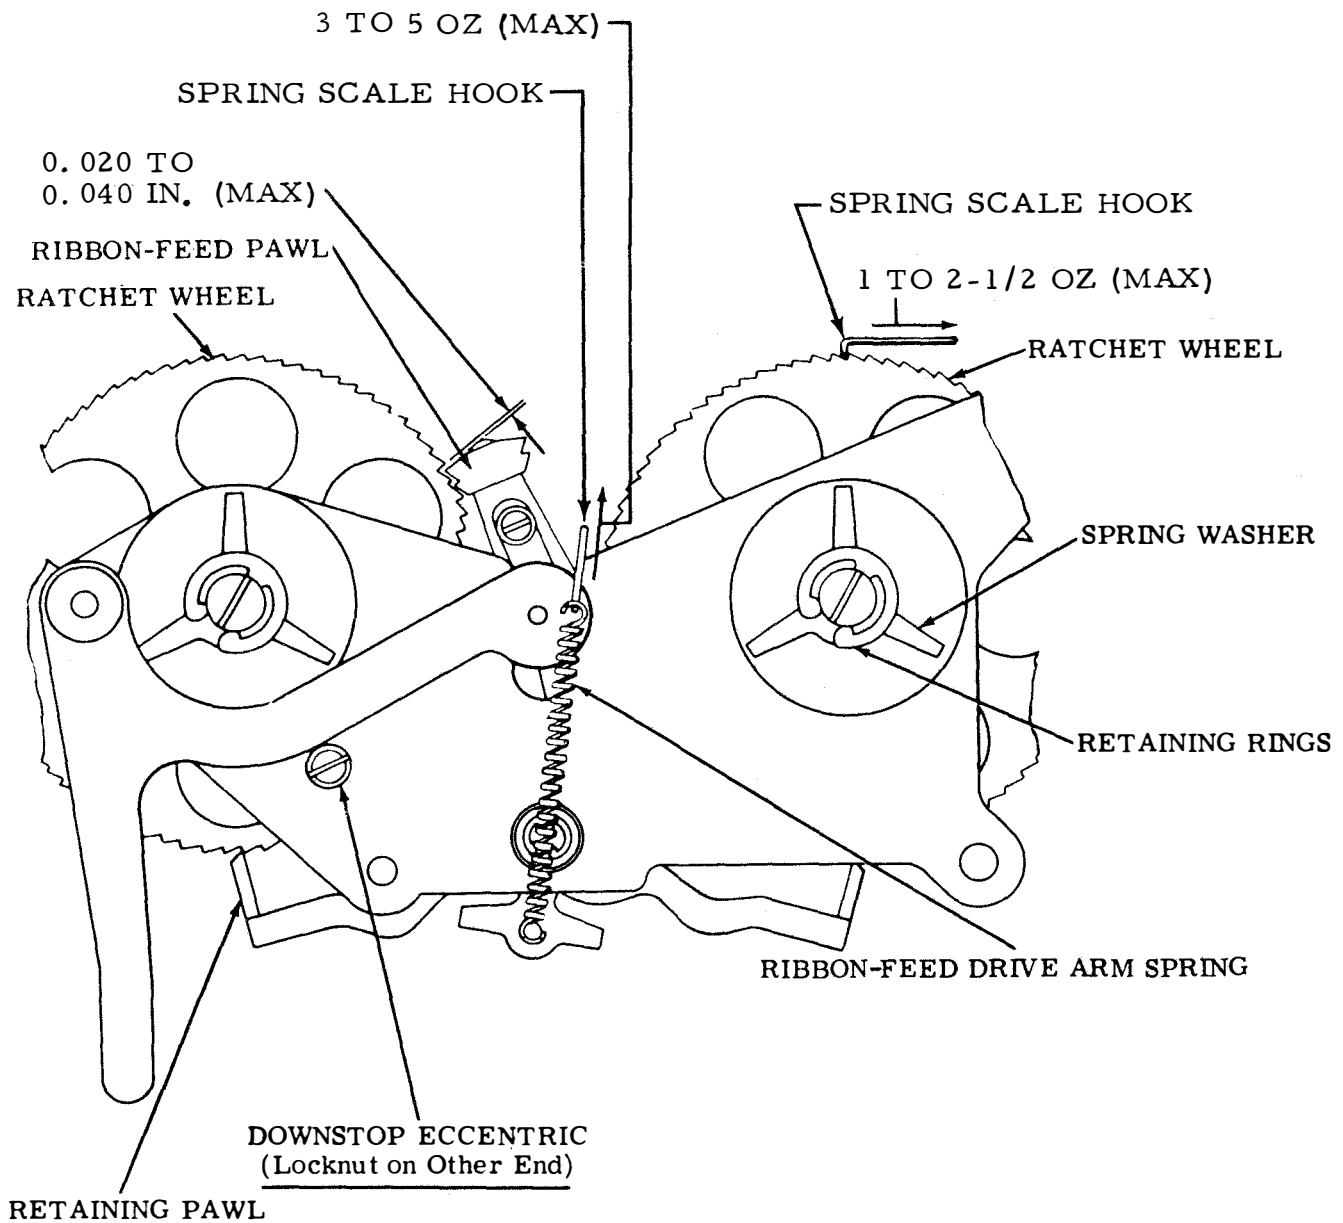

Figure 6-596. Ribbon-Feed Drive Arm Spring, Ribbon-Feed Pawl Downstop Eccentric, and Ribbon Ratchet Wheel Spring Washers, Reperforator, Rear View
(3) Ribbon-Feed Drive Arm Spring. Adjust as follows:
- (a) Refer to Figure 6-596.
(4) Ribbon-Feed Pawl Downstop Eccentric. Adjust as follows:
(5) Ribbon Ratchet Wheel Spring Washers. Adjust as follows: